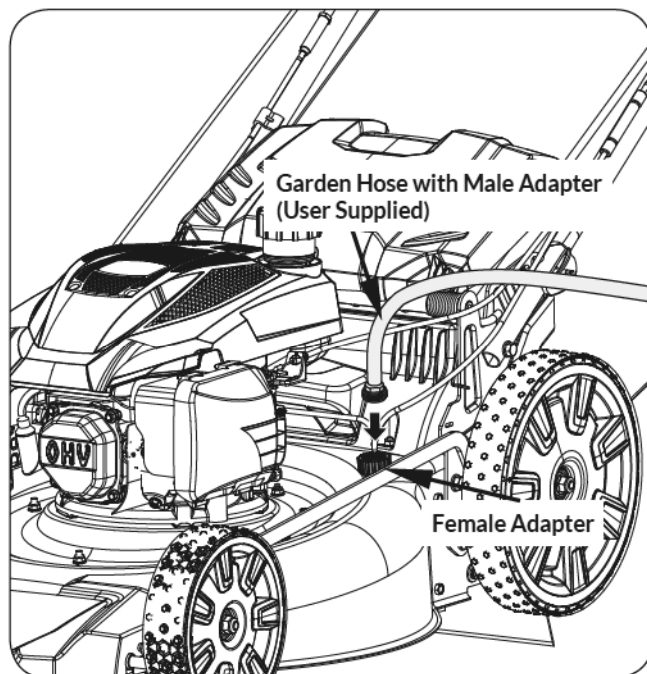

Figure 13
- Attach the garden hose with a male adapter (user supplied) to the female adapter on your deck's surface. (See **Figure 13**).